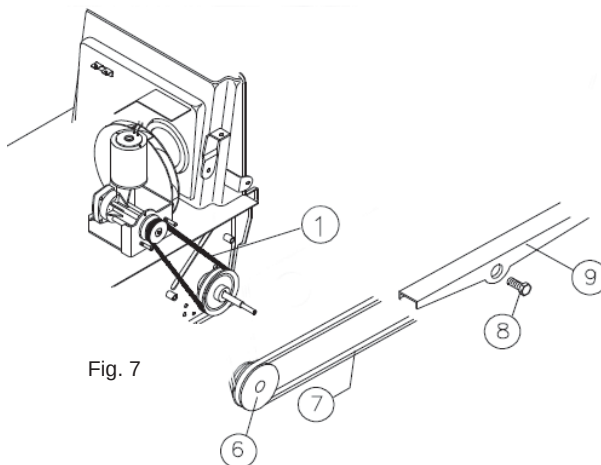

Fig. 7
- Remove the belt pos. 7 Fig. 7 from the pulley pos. 6 Fig. 7.
- Unscrew the fixing pin pos. 8 Fig. 7 and release the hooks on the side arm pos. 9 Fig. 7 from the idle toothed ring.
- Remove the belt pos. 7 from the side arm pos. 9 Fig. 7.
- Reattach the side arm pos. 9 Fig. 7 to the idle toothed ring.
- Retighten the pin pos. 8 Fig. 7.
- Reposition the belt pos. 7 Fig. 7 on the pulley pos. 6 Fig. 7.
- Remove the belt pos. 1 Fig. 7.